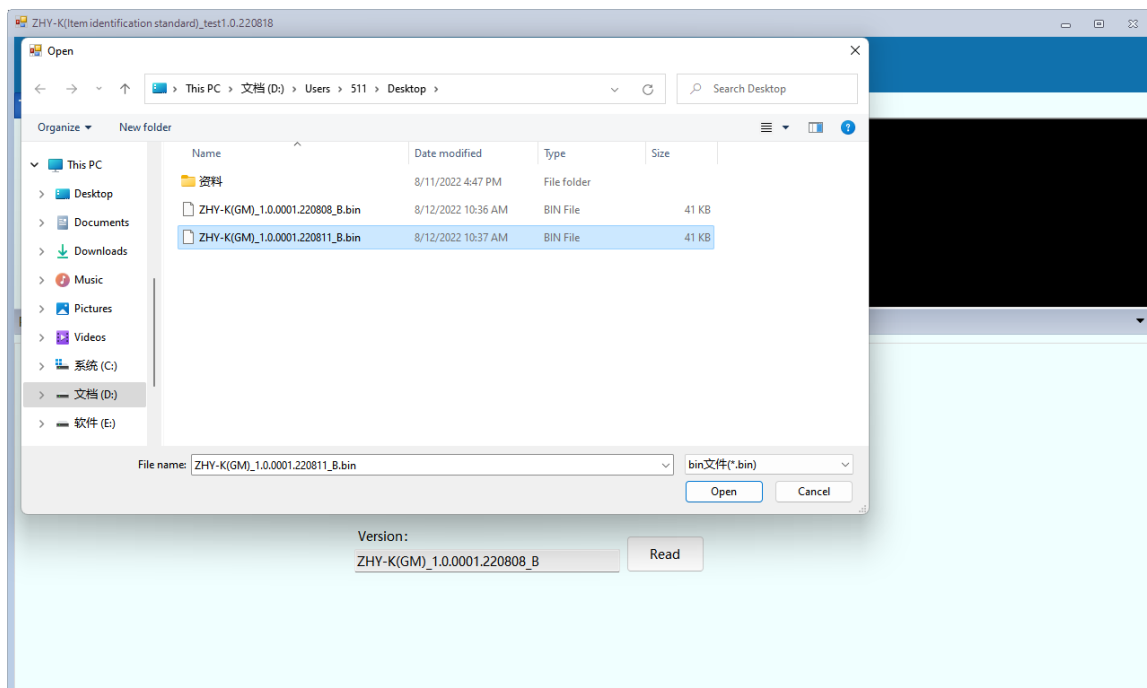

Figure 4.17 Load File select UI
(2) secondly; click the Fill In Button to fill in the file that you necessary, while the file's name can display in the TextBox2, as shown in Figures 4.17 & Figure 4.18;